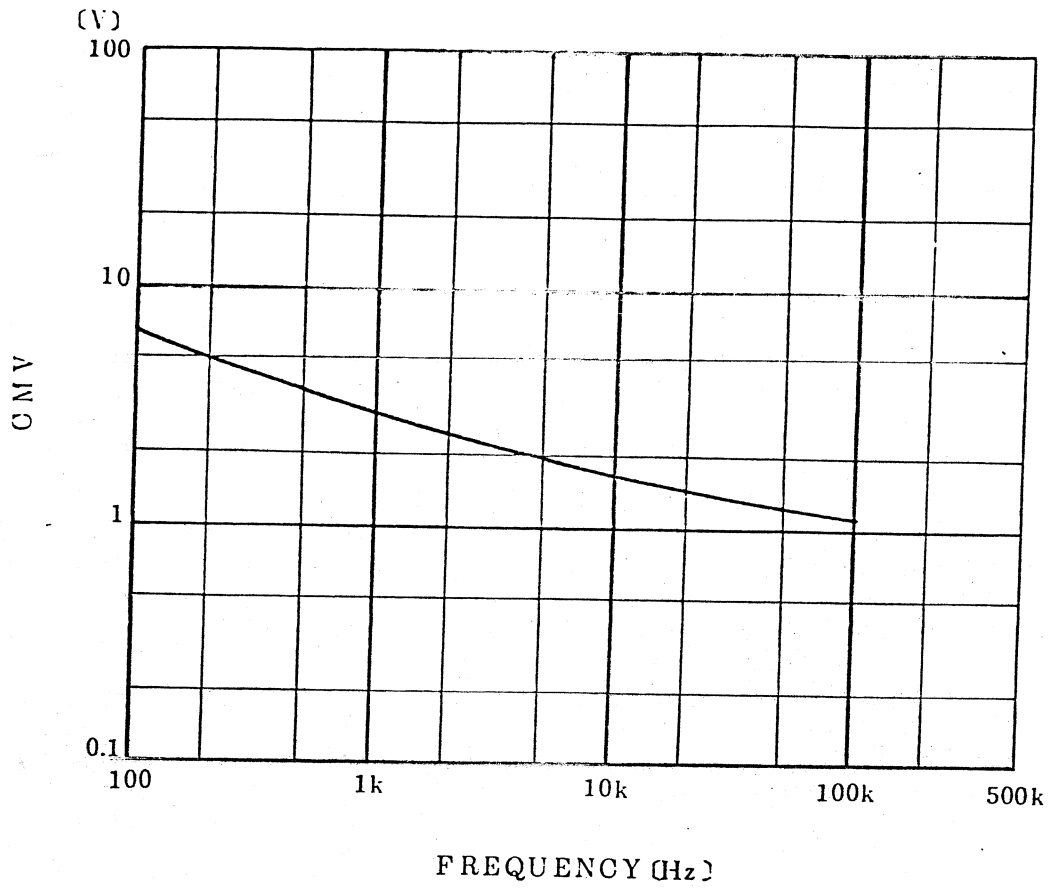

Fig. 6-1 Frequency vs. common mode voltage range
- Fig. 6-1 Frequency vs. common mode voltage range